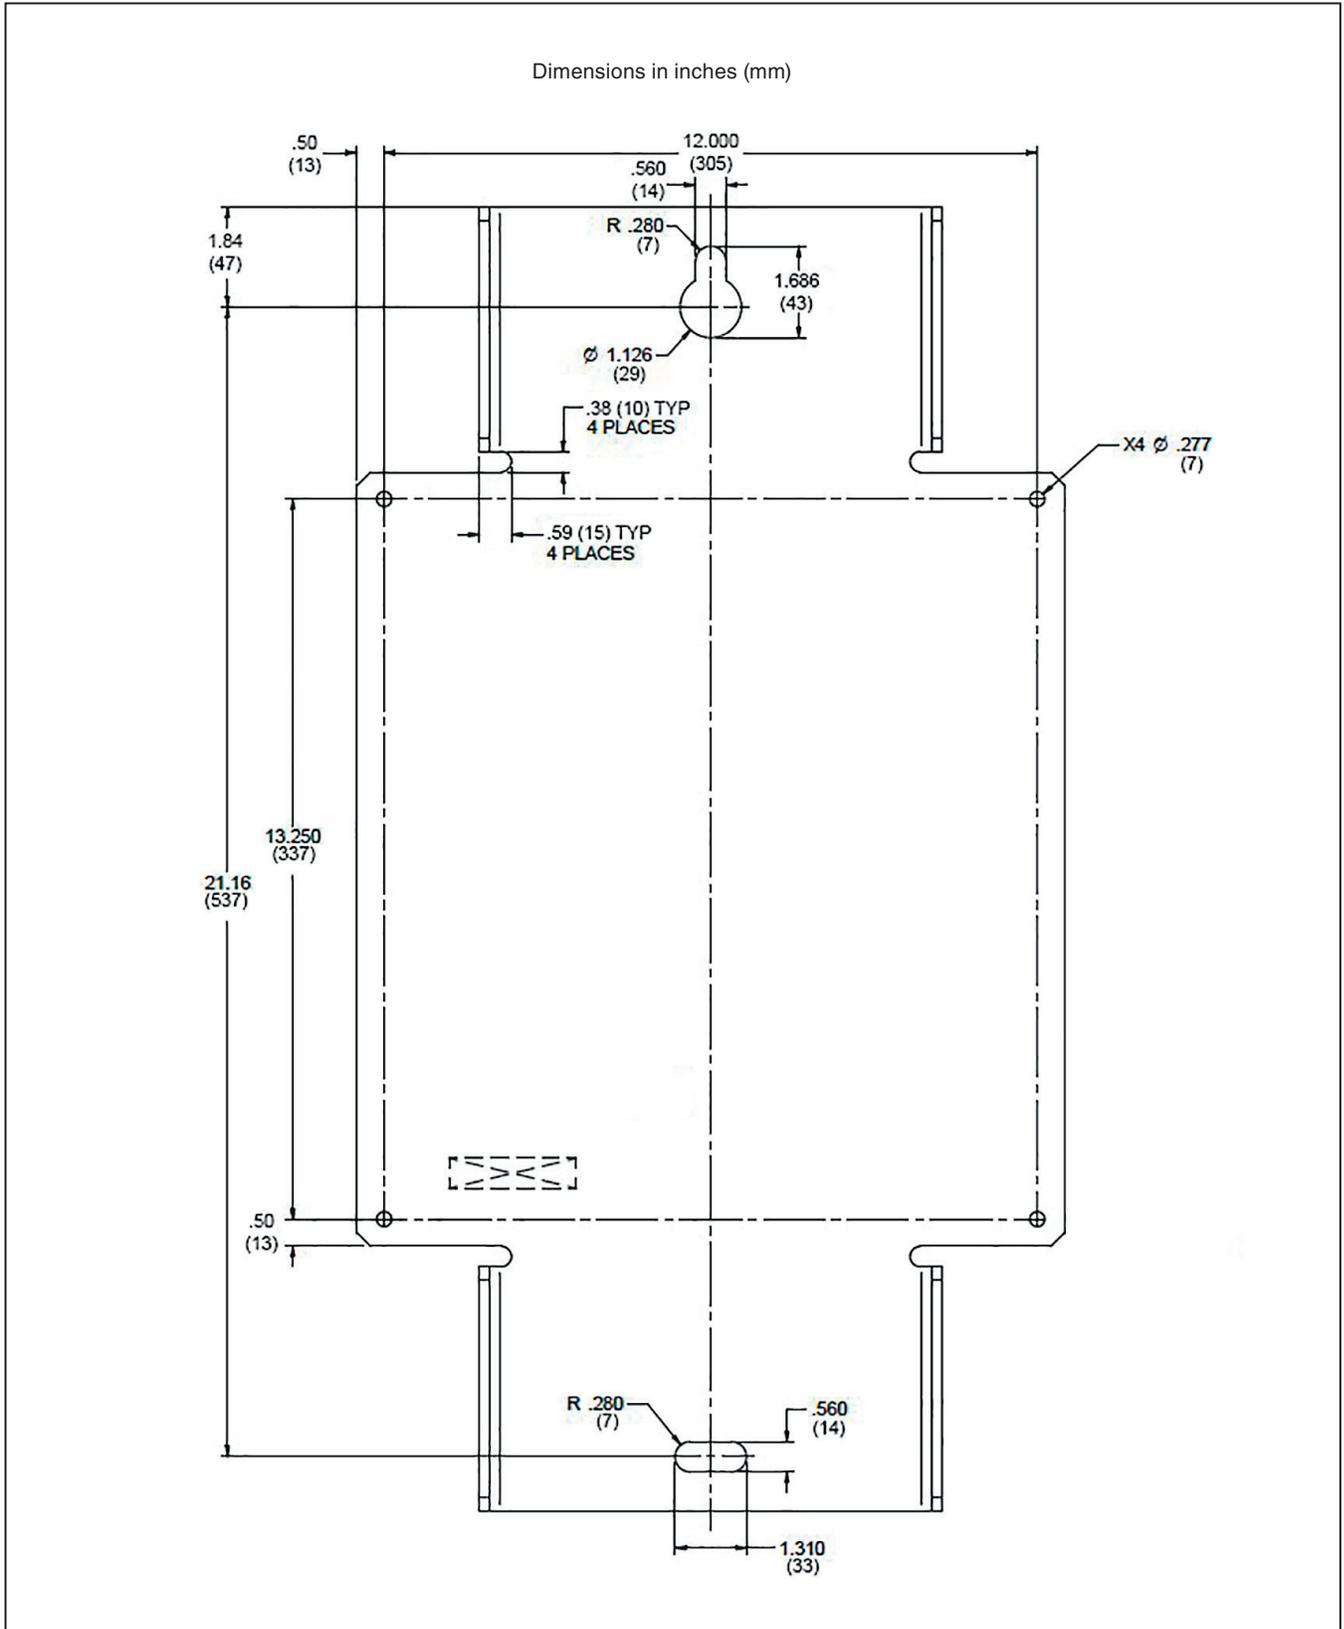

Figure 11. Mounting bracket dimensions.
STEP 5. Reinstall the gland plate and mount the external interface assembly to the pole or pedestal. See Figure 11 on page 19 for the mounting bracket hole details. See S&C catalog number CM-21641-1 for the pedestal mounting bracket and CM-21641-2 for the pole mounting bracket.